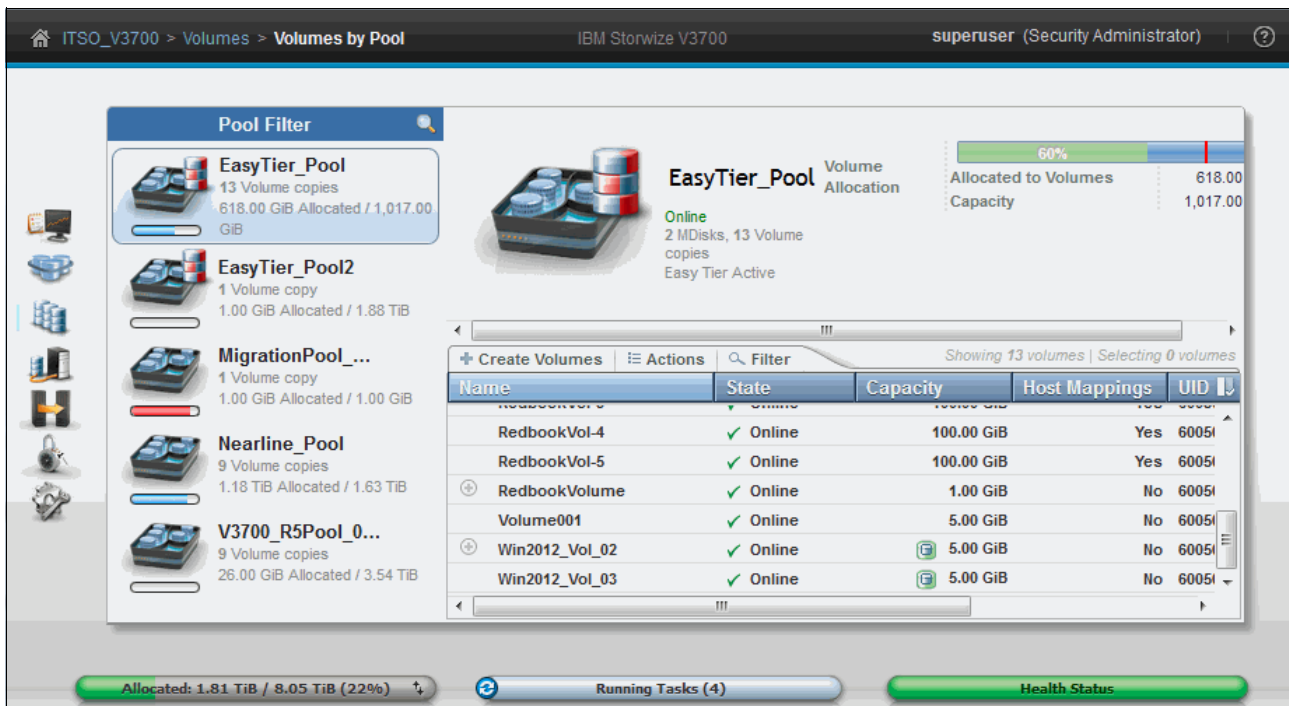

Figure 8-79 Volumes by Pool pane
2. The Volumes by Pool pane opens, as shown in Figure 8-79.